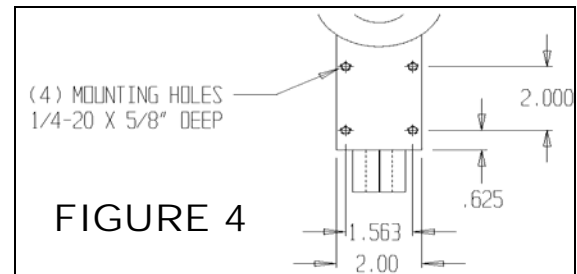

FIGURE 4
The locations of the (4) 1/4"-20 Air Prime mounting holes are shown in figure 4 below. These mounting holes are available for use on all of the Air Prime designs. When fabricating a bracket to attach the primer to a structural member on the vehicle, always use all (4) of the Air Prime mounting holes.